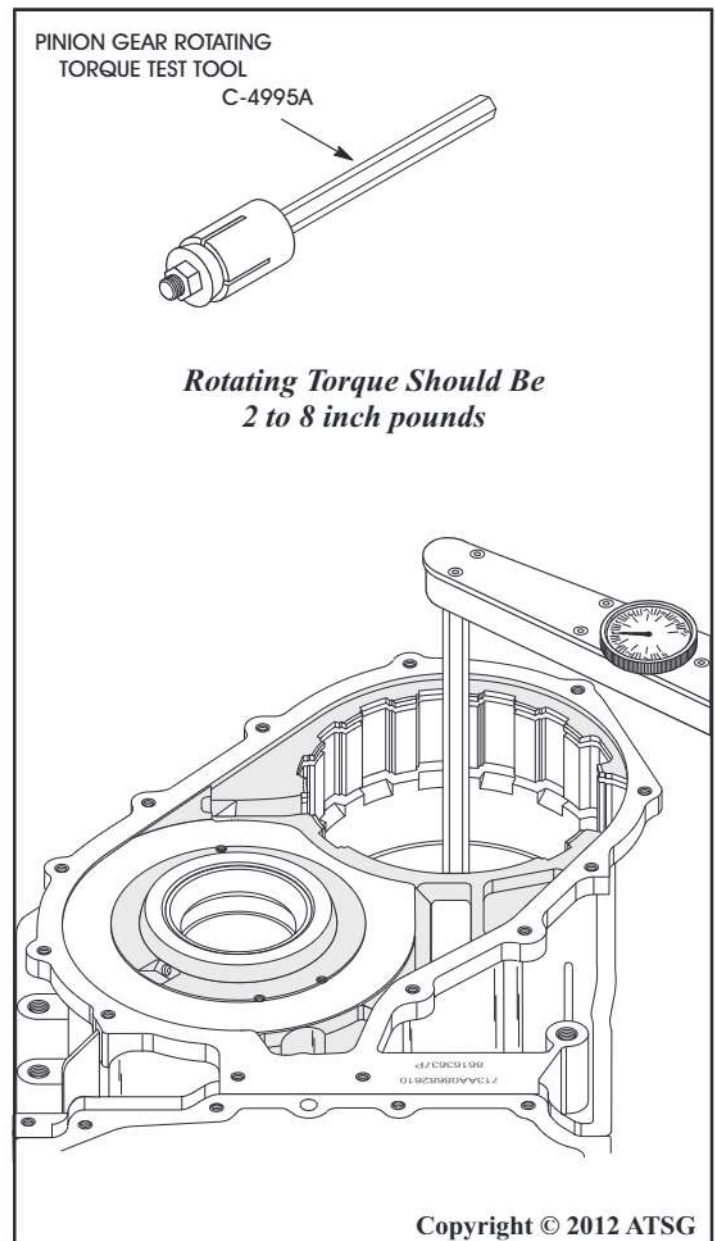

Figure 94
9. Check rotating torque using pinion gear torque tool C-4995A and an inch pound, dial type torque wrench, as shown in Figure 94.